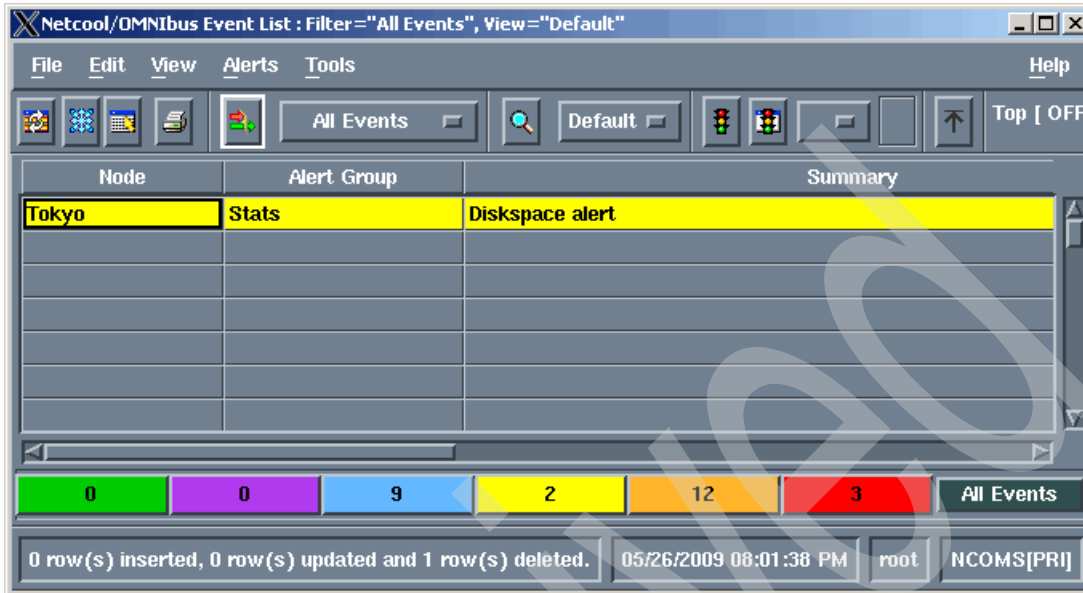

Figure 4-11 AEL on NCOMS
b. Delete an event on the first server, as shown in Figure 4-11.